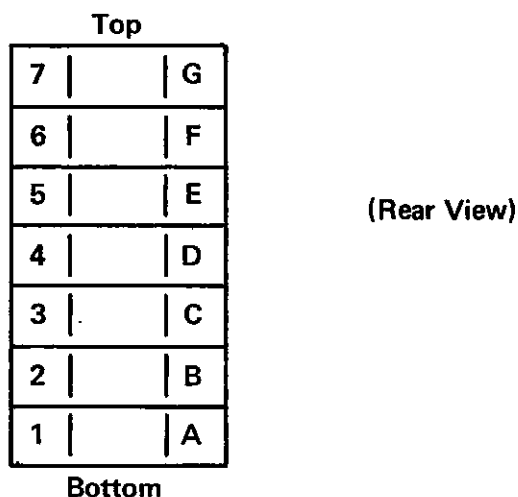

Figure 5.48. Individual Switch Section Connector Diagram
- c. Measure the resistance across pins 4 and 6 (ground) of the individual switch-section connector. Refer to Figure 5.48 for the connector pin location and numbering. With the switch-section in position 0, 2, 4, 6, or 8, the resistance should be 100k ohms or greater. With the switch-section in position 1, 3, 5, 7, or 9, the resistance should be 800 ohms or less.